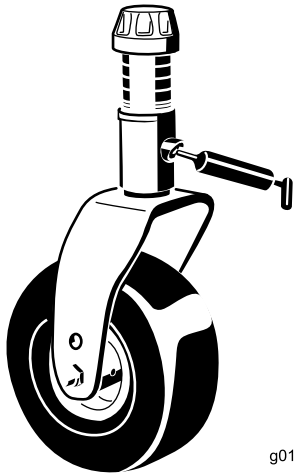

Figure 15
- Castor fork shaft bushings (4) (Figure 15).